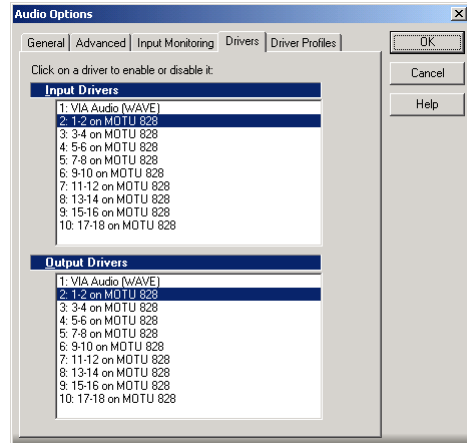

Figure 7-2: Activating the MOTU 828 driver in SONAR by highlighting inputs and outputs.
- 3 Highlight the MOTU 828 inputs and outputs that you wish to use and unhighlight the ones you don't as shown in Figure 7-2.